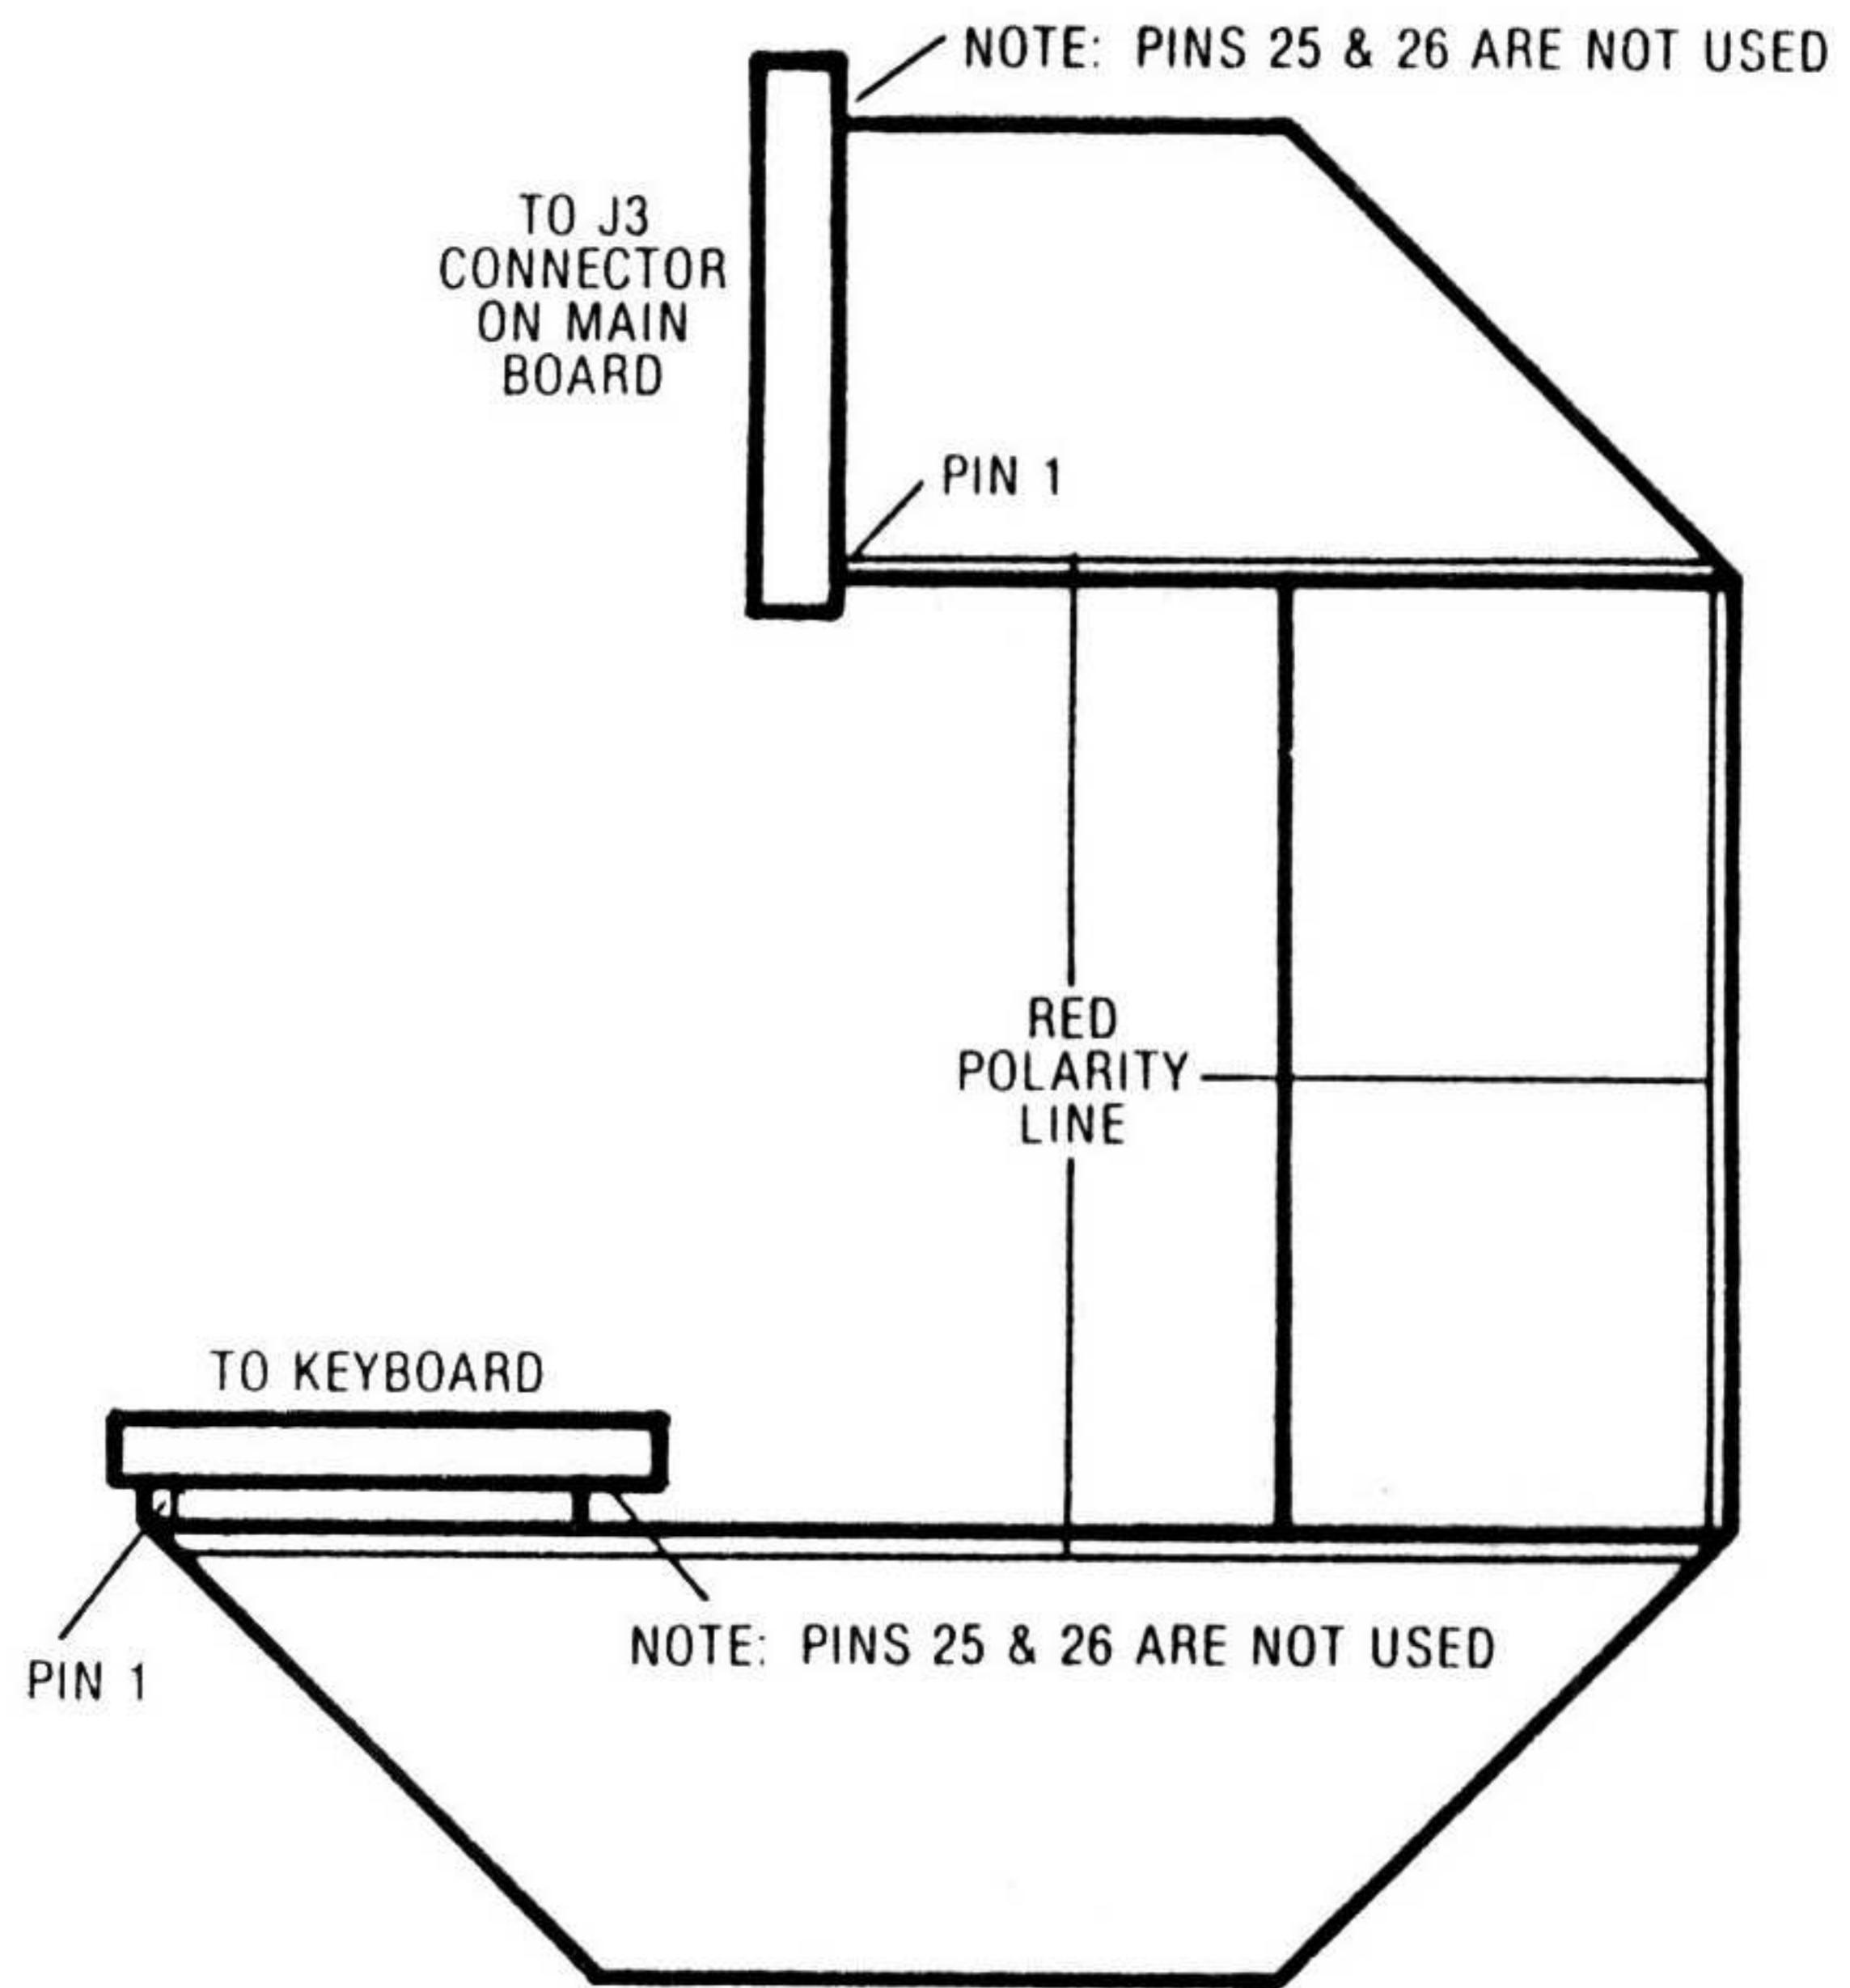

FIGURE 5 - KEYBOARD CABLE
- IMPORTANT!** 5. To install the new keyboard, lay the right side of the keyboard into the case and carefully plug the connector into the keyboard. Note that the keyboard cable is pre-formed into several bends. Refer to Figure 5 to make sure the cable is properly routed. Then, lower the left side of the keyboard into the case, making sure that the flat cable is not in danger of being pinched by the keyboard mounting rails.